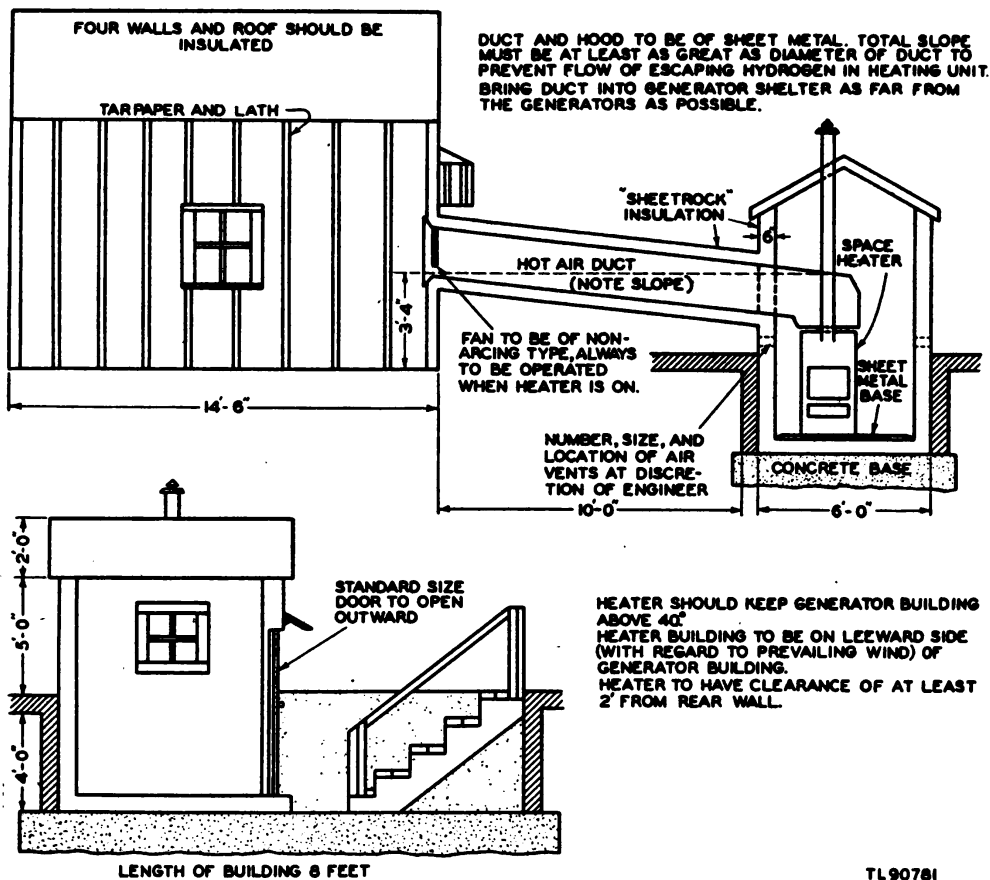

Figure 9. Heated generator shelter.
(2) A storage room for the chemicals is desirable. Store the caustic soda and ferrosilicon, or caustic soda and aluminum, apart from each other so that the chemicals cannot mix if the containers break. Keep the chemicals dry. Punch a small hole in all small metal ferrosilicon containers to release any gas that may form from the decomposition of impurities in the ferrosilicon.
*b.* HEATED SHELTER FOR USE IN ARCTIC REGIONS (FIG. 9). In arctic regions, use Generator ML-185-(\*) in a heated shelter if possible. Use an indirect heating system, preferably a hot-air system, since steam or hot-water systems freeze in cold weather. Locate the heating unit in a separate building, or in a portion of the generator building, *completely separated by a fireproof partition*. All possibilities of fire, sparks, or explosion *must* be eliminated. The entrance to the heater room should be from the outside. Provide adequate ventilation for the immediate removal of hydrogen gas in case of leakage.